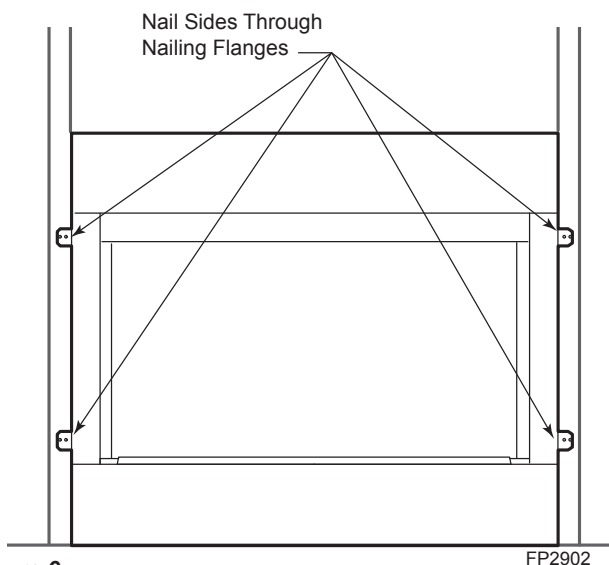

Figure 9 -
4. Anchor firebox to the side framing members using 8d nails or other suitable fasteners. *Figure 9.*